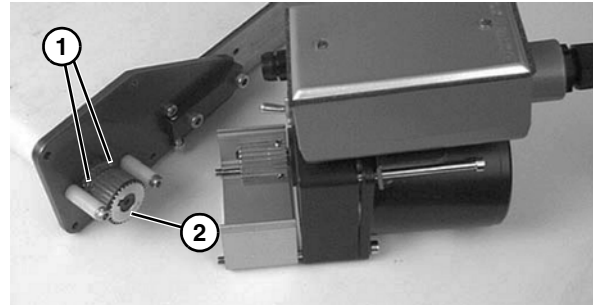

Figure 53
5. Loosen set screws (**Figure 53, item 1**) and remove driven pulley (**Figure 53, item 2**).